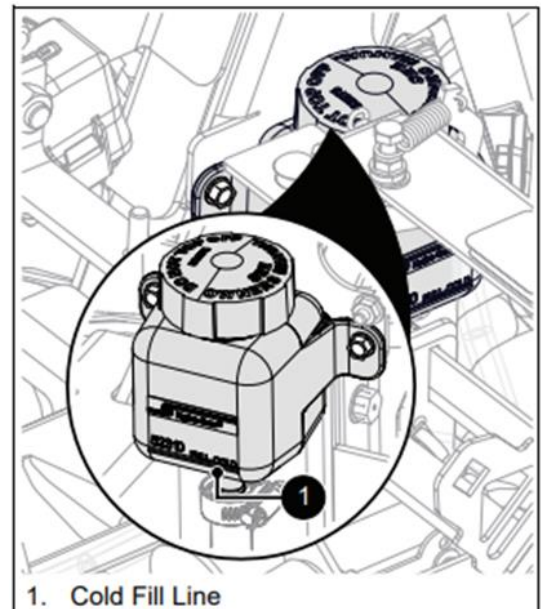

Figure 36
2. Check oil level in expansion tanks. Oil should reach the cold fill indicator mark (*Figure 36*).
- b. Fill expansion tanks with 15W-50 Full-Synthetic Hydraulic Fluid until oil reaches the cold fill indicator mark. See *Figure 36*.